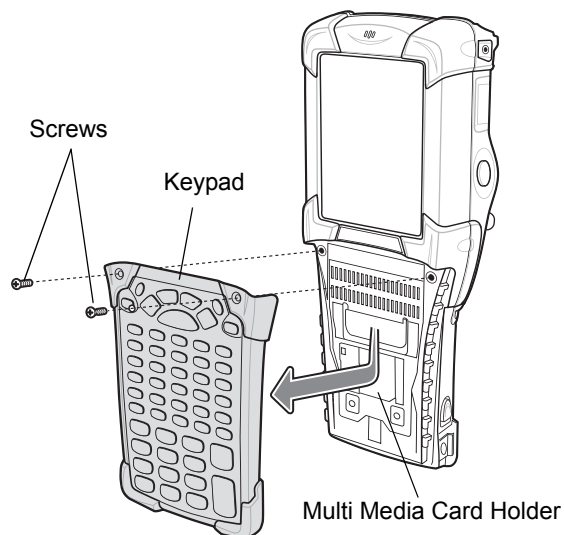

Figure 3-1 Removing the Keypad
The MMC provides secondary non-volatile storage. The MMC is located under the keypad (see Figure 3-1 on page 3-3).
2. Remove the two keypad screws and slide the keypad down and lift off (see Figure 3-1 on page 3-3).